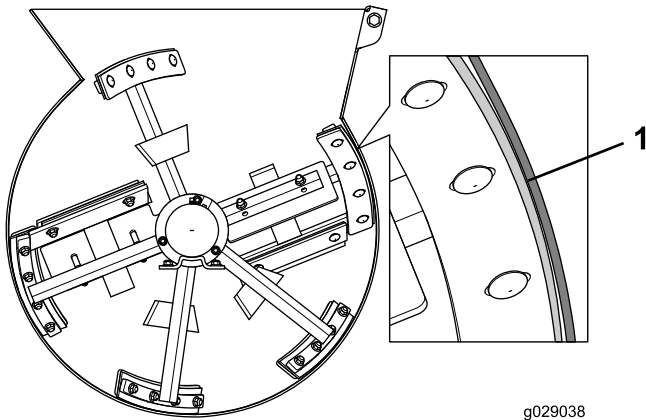

Figure 46
5. Adjust the position of the wiper so that the wiper lightly contacts the drum across the length of the wiper (Figure 46).